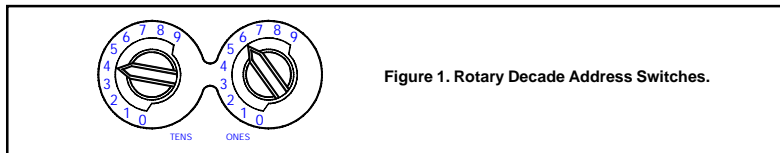

Figure 1. Rotary Decade Address Switches.
1. Set the sensor address (see Figure 1) by using a flat blade screwdriver to turn the two rotary switches, selecting the desired number between 01 and 99. Record the address on the label attached to the base.